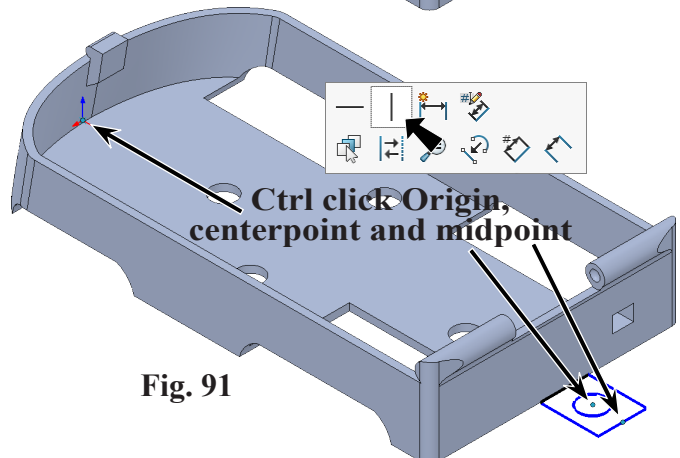

Fig. 91
Step 8. **Ctrl click midpoint of a horizontal line, centerpoint of circle and Origin** to select all three. Release Ctrl key and click **Make Vertical** on the context toolbar, **Fig. 91**.